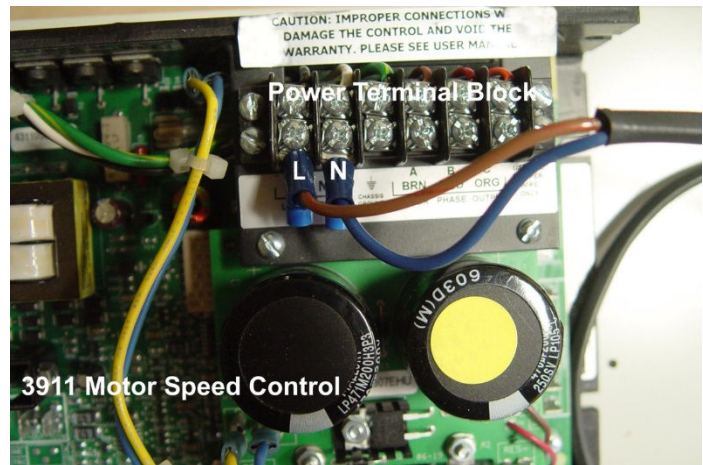

Figure 2 Power connect from 3984 module
4.10 Connect power (see Figure 2). Loosen screws on the 3911 Motor Speed board terminal block marked L and N. Slip the brown power wire terminal into the L screw then tighten. Slip the blue wire terminal into the N screw then tighten. Snap the two fuse blocks onto the DIN rail next to the existing fuse block.